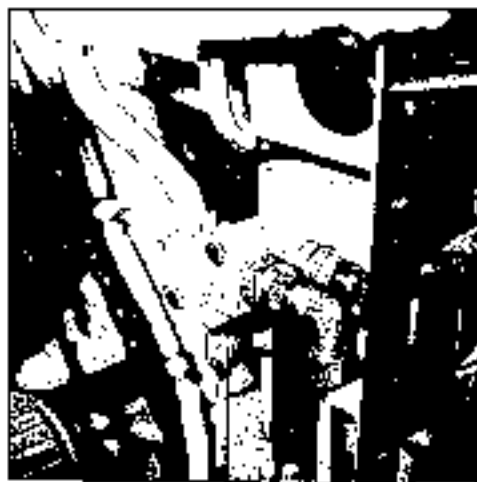

Fig. 4-59 Parking valve
7.5 PARKING VALVE (See Fig 4-59)